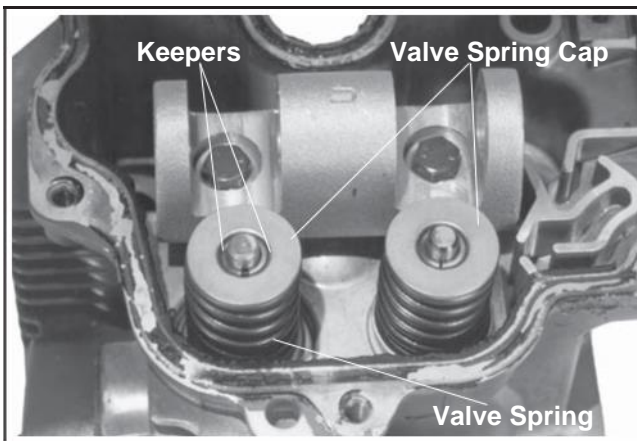

Figure 11-39. Installing Valve Keepers.
2. Install the intake valve stem seal*, intake valve, spring retainer*, intake valve spring, and valve spring cap. Compress the valve spring using a valve spring compressor and install the keepers. See Figure 11-39.